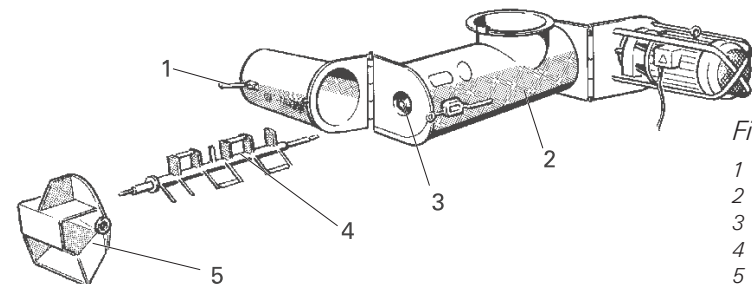

Fig. 14: Cleaning
- Release the eccentric lock (fig. 14, 1) and remove the bearing cover (fig. 14, 5)
- Pull out the mixer shaft (fig. 14, 4) and open the mixing pipe
Always keep the adapter between the mixing shaft and the portioning shaft (fig. 14, 3) clean, dry and free of grease. Always ensure that no water can enter the portioning pipe (14, 2)